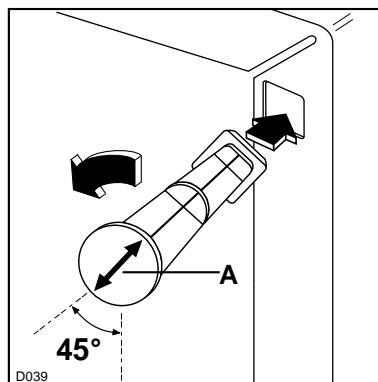

Fig. 3
Push-fit the spacers into the openings, making sure the arrow (A) is positioned as per Fig. 3 and then turn the spacers through 45° until they lock in (arrow (A) in a vertical position).